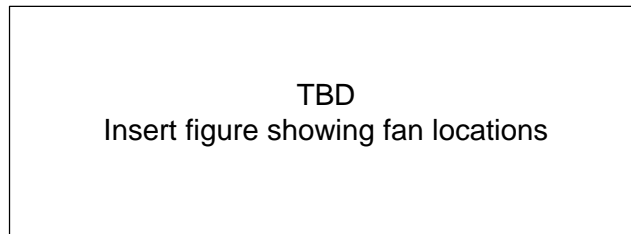

Figure 1.- Fan locations.
6. Retrieve Portable Fans (four) from bag and install on seat track according to Figure 1.